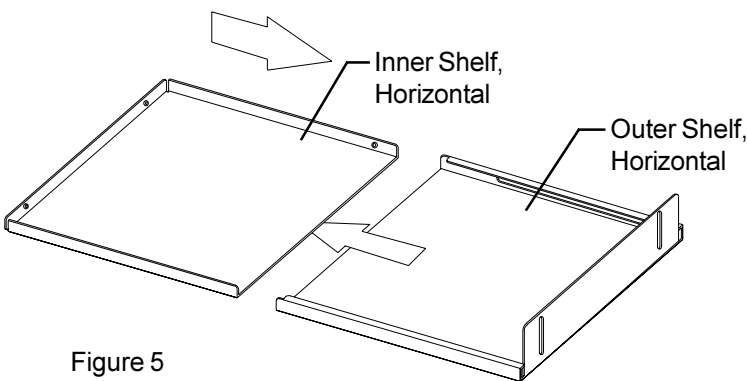
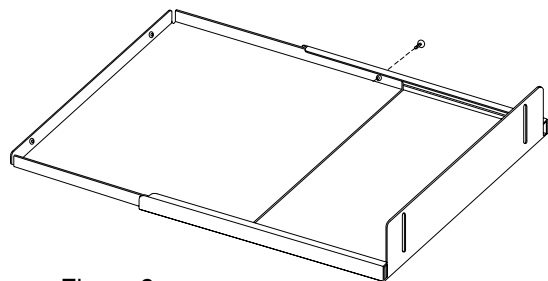

Figure 5
Figure 6
Position the horizontal shelves (inner and outer) to slide together as shown in Figure 5. Install the (1) 1/4-20 hardware (KK) as shown in Figure 6. **Do not tighten screw.**